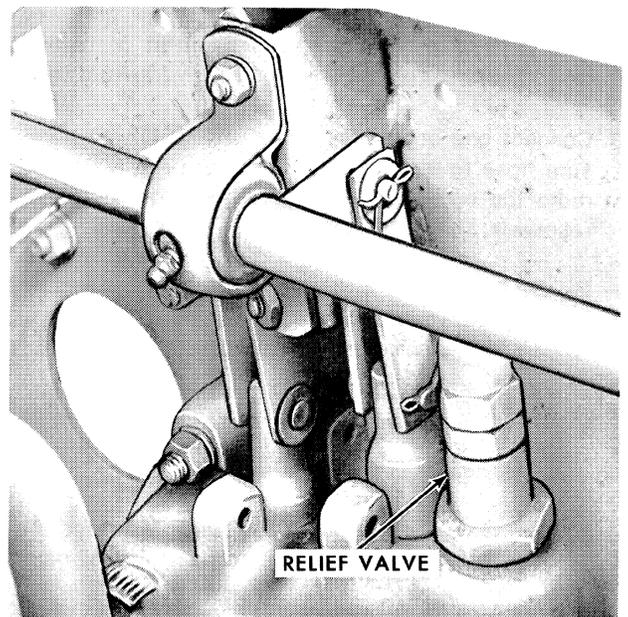

Figure 4
6. If the reading on the pressure gauge is not within the specified limits, adjust the relief valve, Figure 4, by loosening the jam nut and tightening or loosening the adjusting screw as required.